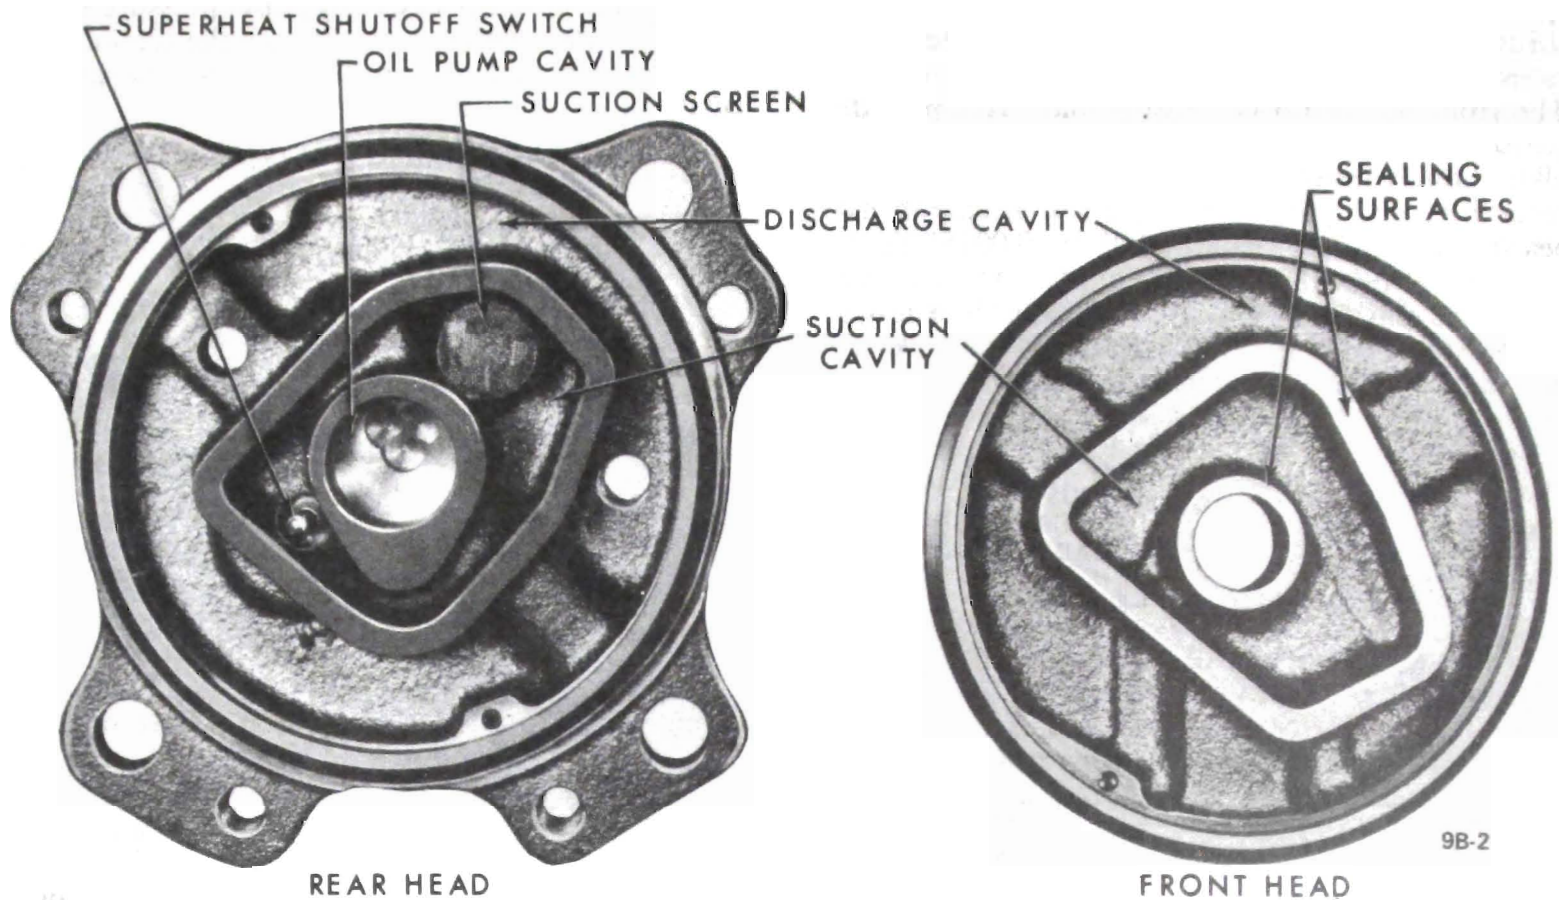

Figure 9B-2 Compressor Front and Rear Heads
2. Front and Rear Heads - The front and rear heads (Figure 9B-2) serve to channel the refrigerant into and out of the cylinders. The front head is divided into two separate passages and the rear head is divided into three separate passages. The outer passage on both the front and rear heads channels high pressure gas from the discharge valve reeds. The middle passage on both front and rear heads channels low pressure gas to the suction valve plate reeds. The middle passage of the rear head also contains the port opening to the superheat switch cavity. This opening in the rear head permits the superheat switch to be affected by suction gas pressure and suction gas temperature for the operating protection of the compressor. The inner passage on the rear head houses the oil pump inner and outer rotors. "O" rings are used to affect a seal between the mating surfaces of the heads and the shell. The front head suction and discharge passages are connected to the suction and discharge passages of the rear head by a discharge tube and suction passage in the body of the cylinder assembly. A screen located in the suction port of the rear head prevents foreign material from entering the circuit.